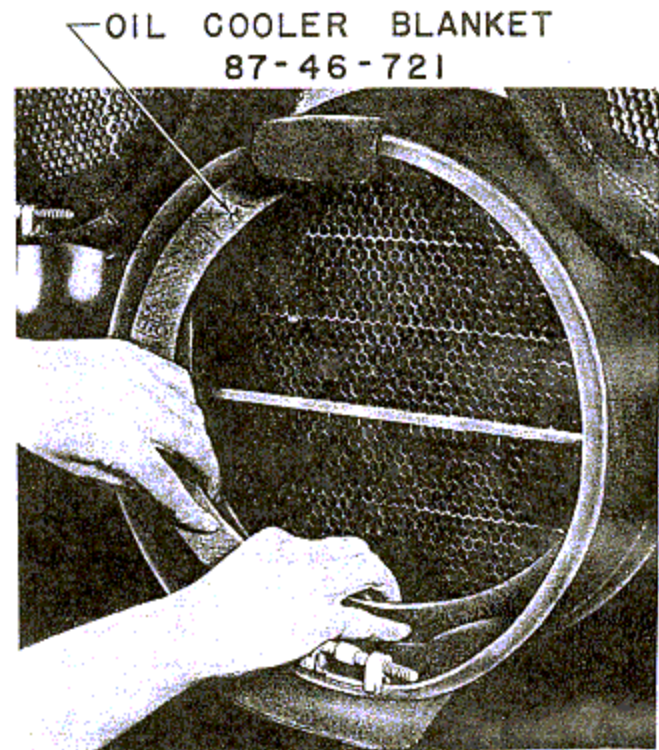

Figure 192—Installing Oil Cooler Blanket
(2) OIL COOLER.—The oil cooler (sometimes referred to as the oil temperature regulator) is contained in a support and strap assembly under the two coolant radiators. A thermostatically controlled rotary type oil temperature control valve mounted on top of the oil cooler controls the flow of oil from the engine through the oil cooler. In operation, the helix bi-metal thermostat rotates the rotary valve, allowing the tempered oil to flow through the warm-up passages or to the core section of the oil cooler depending upon the operating conditions. The oil cooler is equipped with either an aluminum alloy or a copper tube core.
(3) OIL COOLER BLANKET. (See figure 192.)—A one inch oil cooler blanket ring, part No. 87-46-721, is provided as loose equipment. The blanket ring